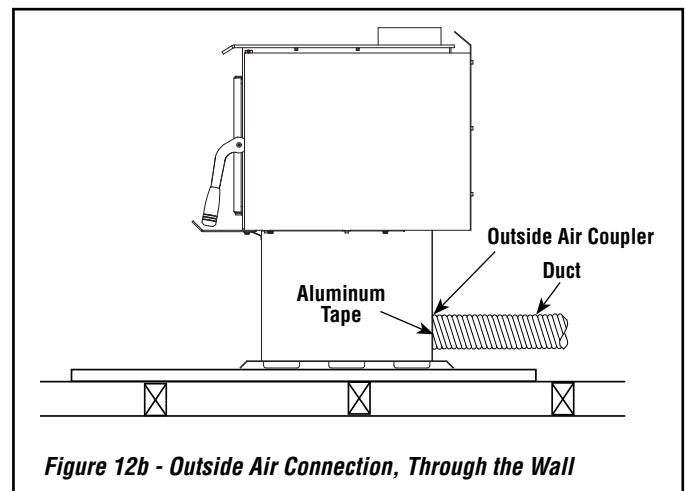

Figure 12b - Outside Air Connection, Through the Wall
- b) The air intake register must not be installed more than ten (10) feet (3050 mm) above the base of the stove.
- Make a 4-1/4" (110 mm) hole in the outside wall of the house at the chosen location. From outside, place the outside air register in the hole (open side down) and fasten the register to the wall, with screws as shown (*see Figures 12b and 13*).